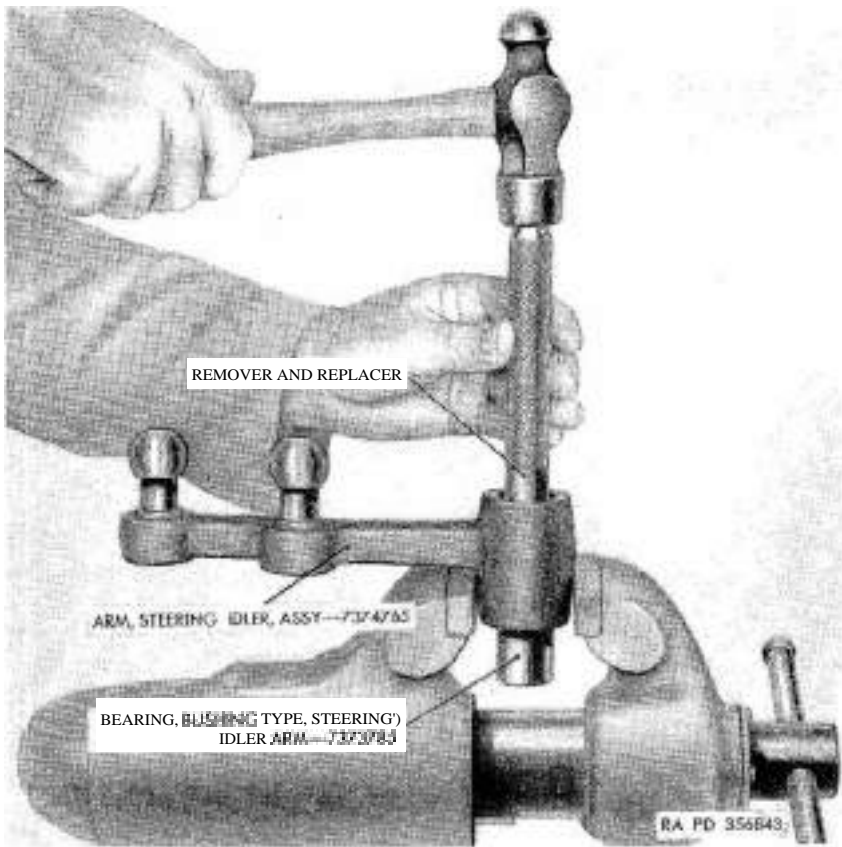

Figure 170. Removing steering idler arm bushing-type bearing with a bushing re-mover and replacer.
If replacement of bearing is necessary, place idler arm assembly in a vise (fig. 170) and drive bearing from arm with a remover and **replacer**.
a. *Install Steering Idler Arm Bushing-Type Bearing in Steering Idler Arm.* If inspection (par. 188a) reveals that replacement of steering idler arm bushing-type bearing is necessary, install a new bearing with a remover and replacer and hammer (fig. 170). Ream bearing if necessary, so that steering idler arm shaft is a free fit in bearing, without play.